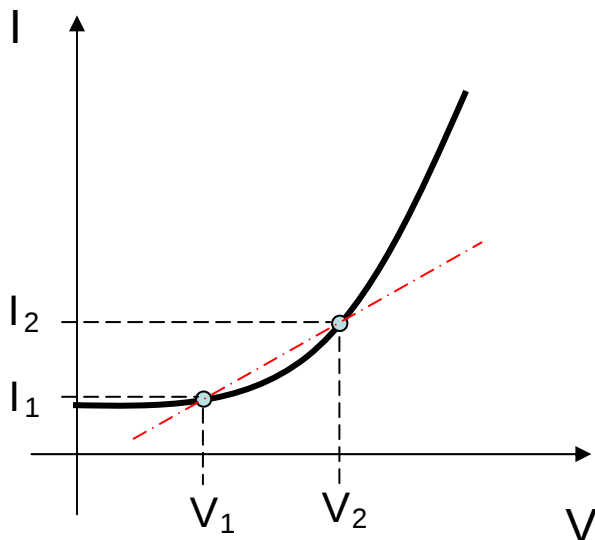

Figure 3. V-I curve of an electric component.
As shown in Figure 3, calculated resistance from equation (2) does not represent the component. However, if we take derivative at V1, i.e. push V2 as close as possible in equation (2), we have